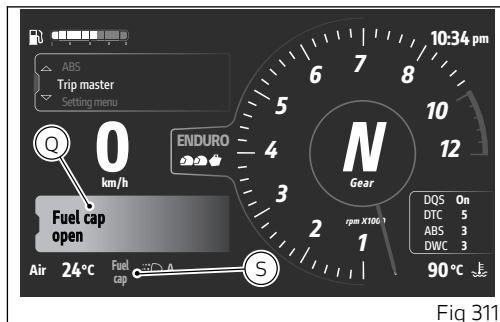
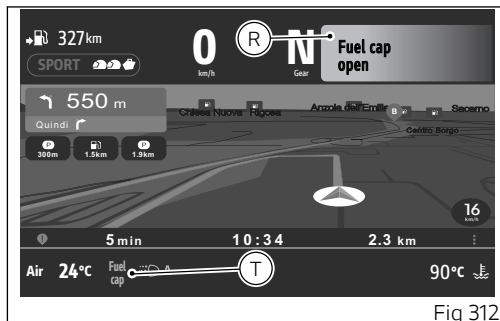

Fig 311
Fig 312
- when activated, it is displayed for the first 5 seconds in the large format (Q main screen, Fig 311) (R Ducati Connect screen Fig 312);
- then it is displayed in the small format (S main screen, Fig 311) (T Ducati Connect screen Fig 312).